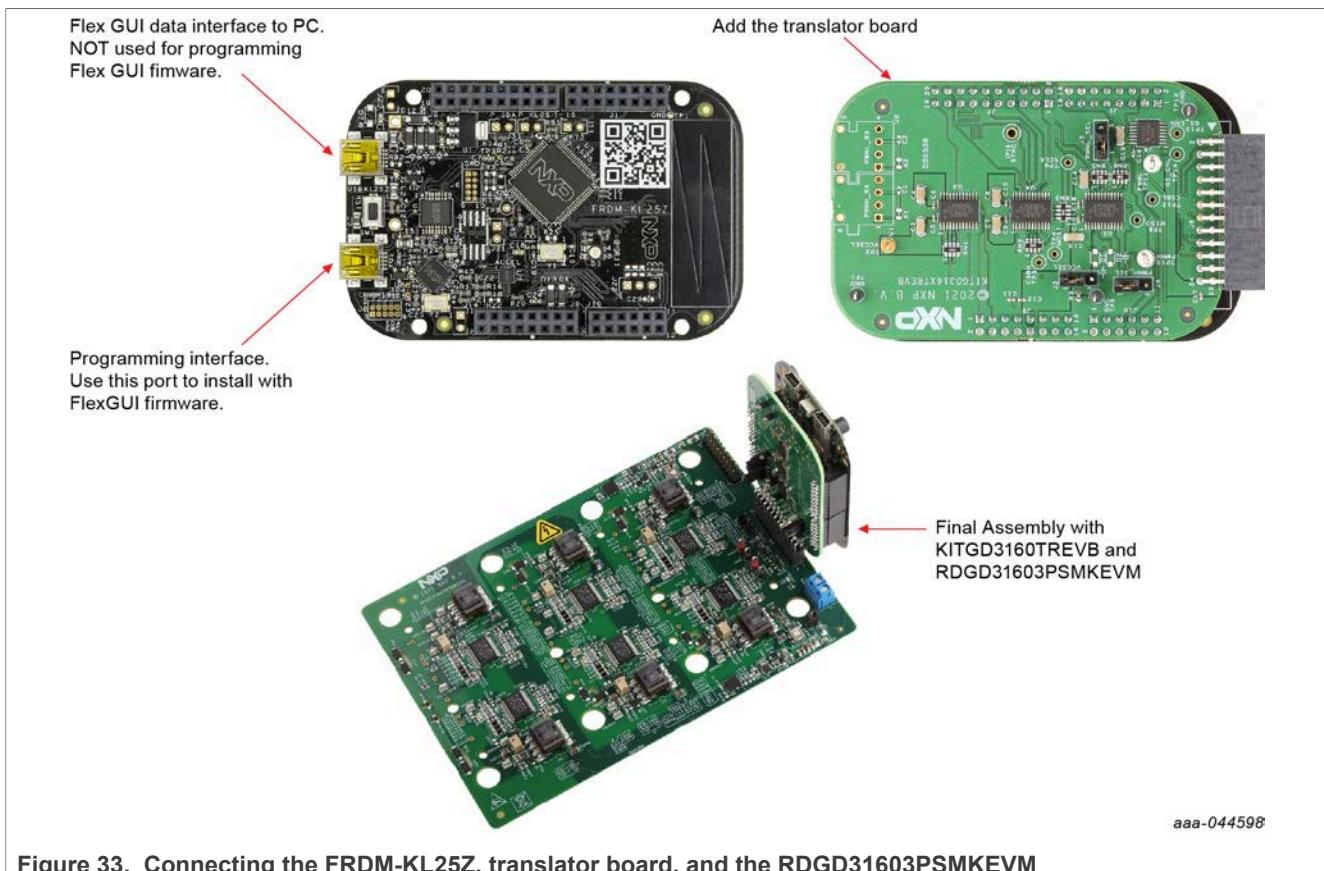

Figure 33. Connecting the FRDM-KL25Z, translator board, and the RDGD31603PSMKEVM
- Assemble the KL25Z microcontroller board, the translator board and the three phase board together, as shown in Figure 33, on the eMPack module.